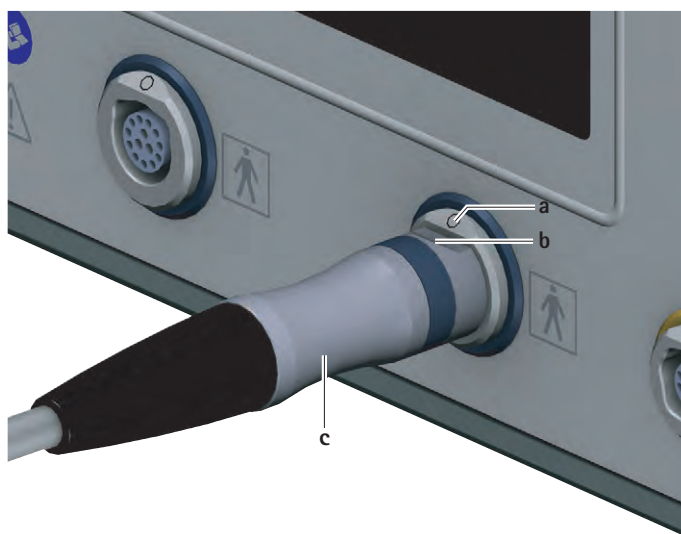

Fig. 3 Connecting the motor cable
- ▶ Position connector for control unit c on the motor cable so that marking b on the connector is aligned with marking a on the connection socket for applied parts 7, see Fig. 3.
- ▶ Unplug the motor cable on the connector for control unit **c** from the connection socket for applied parts **7**, see Fig. 3.